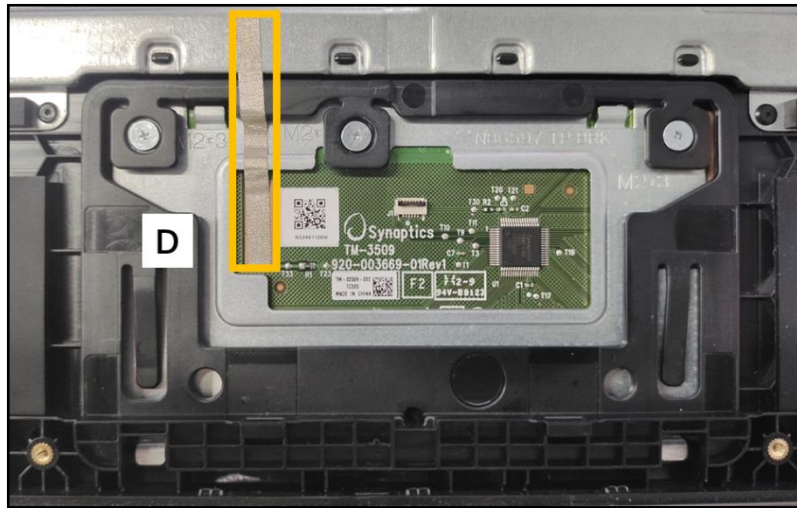

Figure 3-110. Replacing the Touchpad Module
4. Attach the conductive tape (D) onto the touchpad module. Make sure the conductive tape is properly aligned and placed onto its slot highlighted by the yellow and green lines as shown in Figure 3-110.